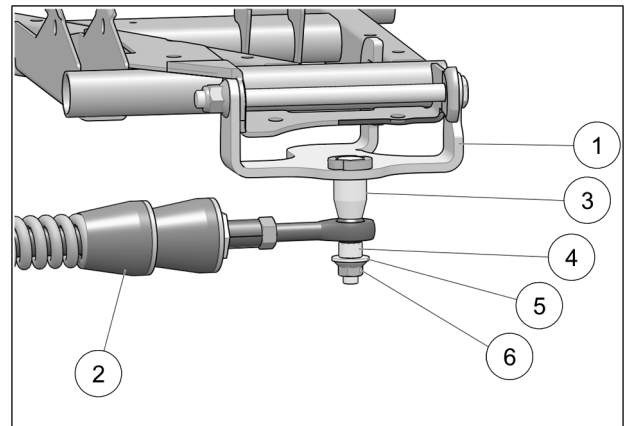

Fig. 12
11. Attach stabilizing rod (2) to anchor bracket (1), using the long spacer bushing (3), short spacer bushing (4), flat washer (5) and nut (6). Torque to 70 N•m [52 lb•ft]. See Fig. 12